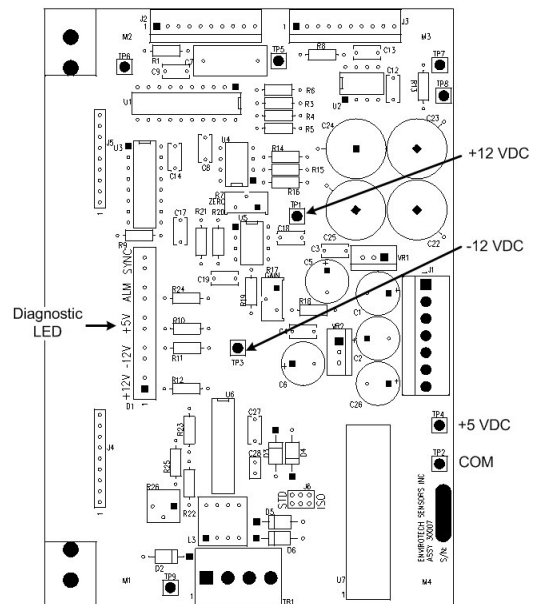

Figure 5.4.2-1 Signal Processor Diagnostic Test Points
1. Measure the power supply voltages at TP1, TP3, & TP4 of the Signal Processor PCB as indicated in Figure 5.4.2-1 and verify that they are within tolerance as listed in Table 5.4.2-1. Use TP2 as the ground reference.